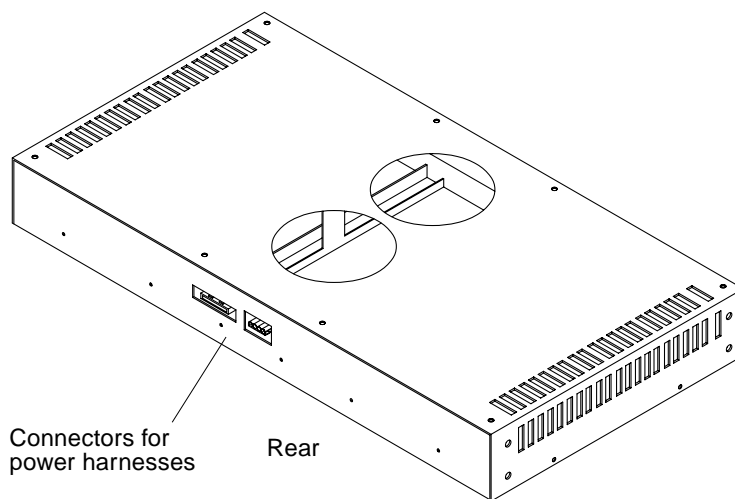

FIGURE 7-8 Power Supply Housing Connectors
- a. With the connector side of the power supply facing the rear shield, set the housing into the chassis (FIGURE 7-8).**